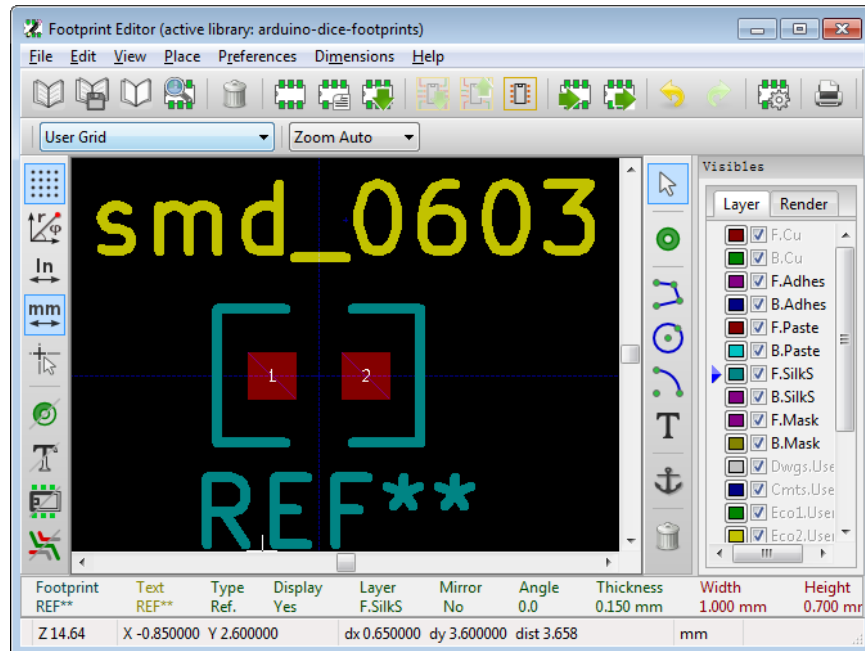

Figure 9: Completed footprint of the SMD 0603 capacitor.
9. The finished footprint drawing should look like that shown in Fig. 9.